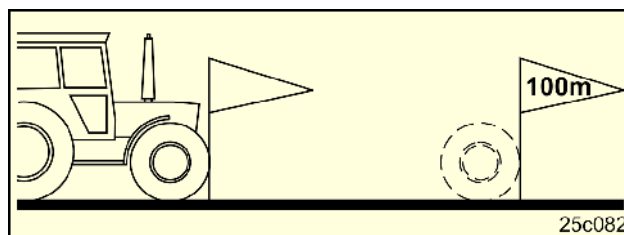

Fig. 24
- Carefully measure the test distance of 100 m in the field. Mark beginning and end of the test distance (Fig. 24).